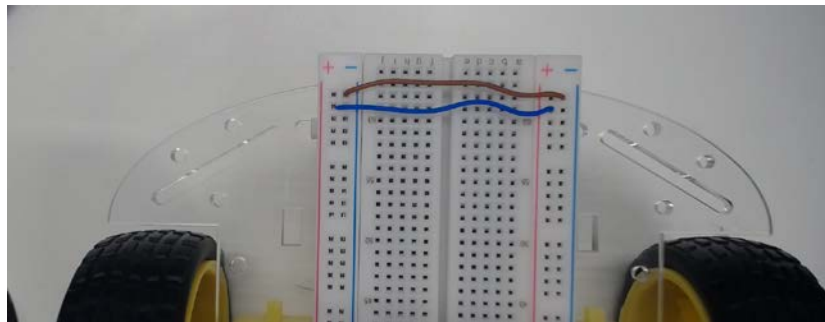
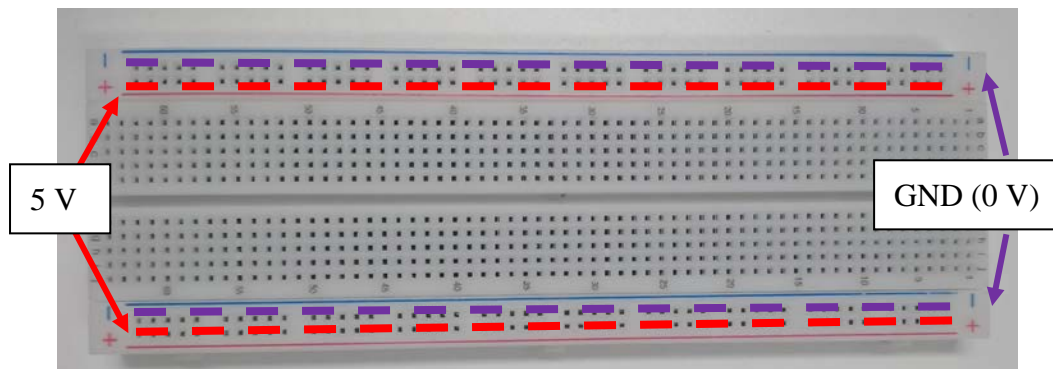

Fig. 15
Fig. 16
5.1.3. On the breadboard, connect both “+” columns together, and connect both “-“ columns together as shown in Fig. 15. As such, both “+” columns are connected to 5V, and both “-“ columns are connected to ground (0 V), as shown in Fig. 16.